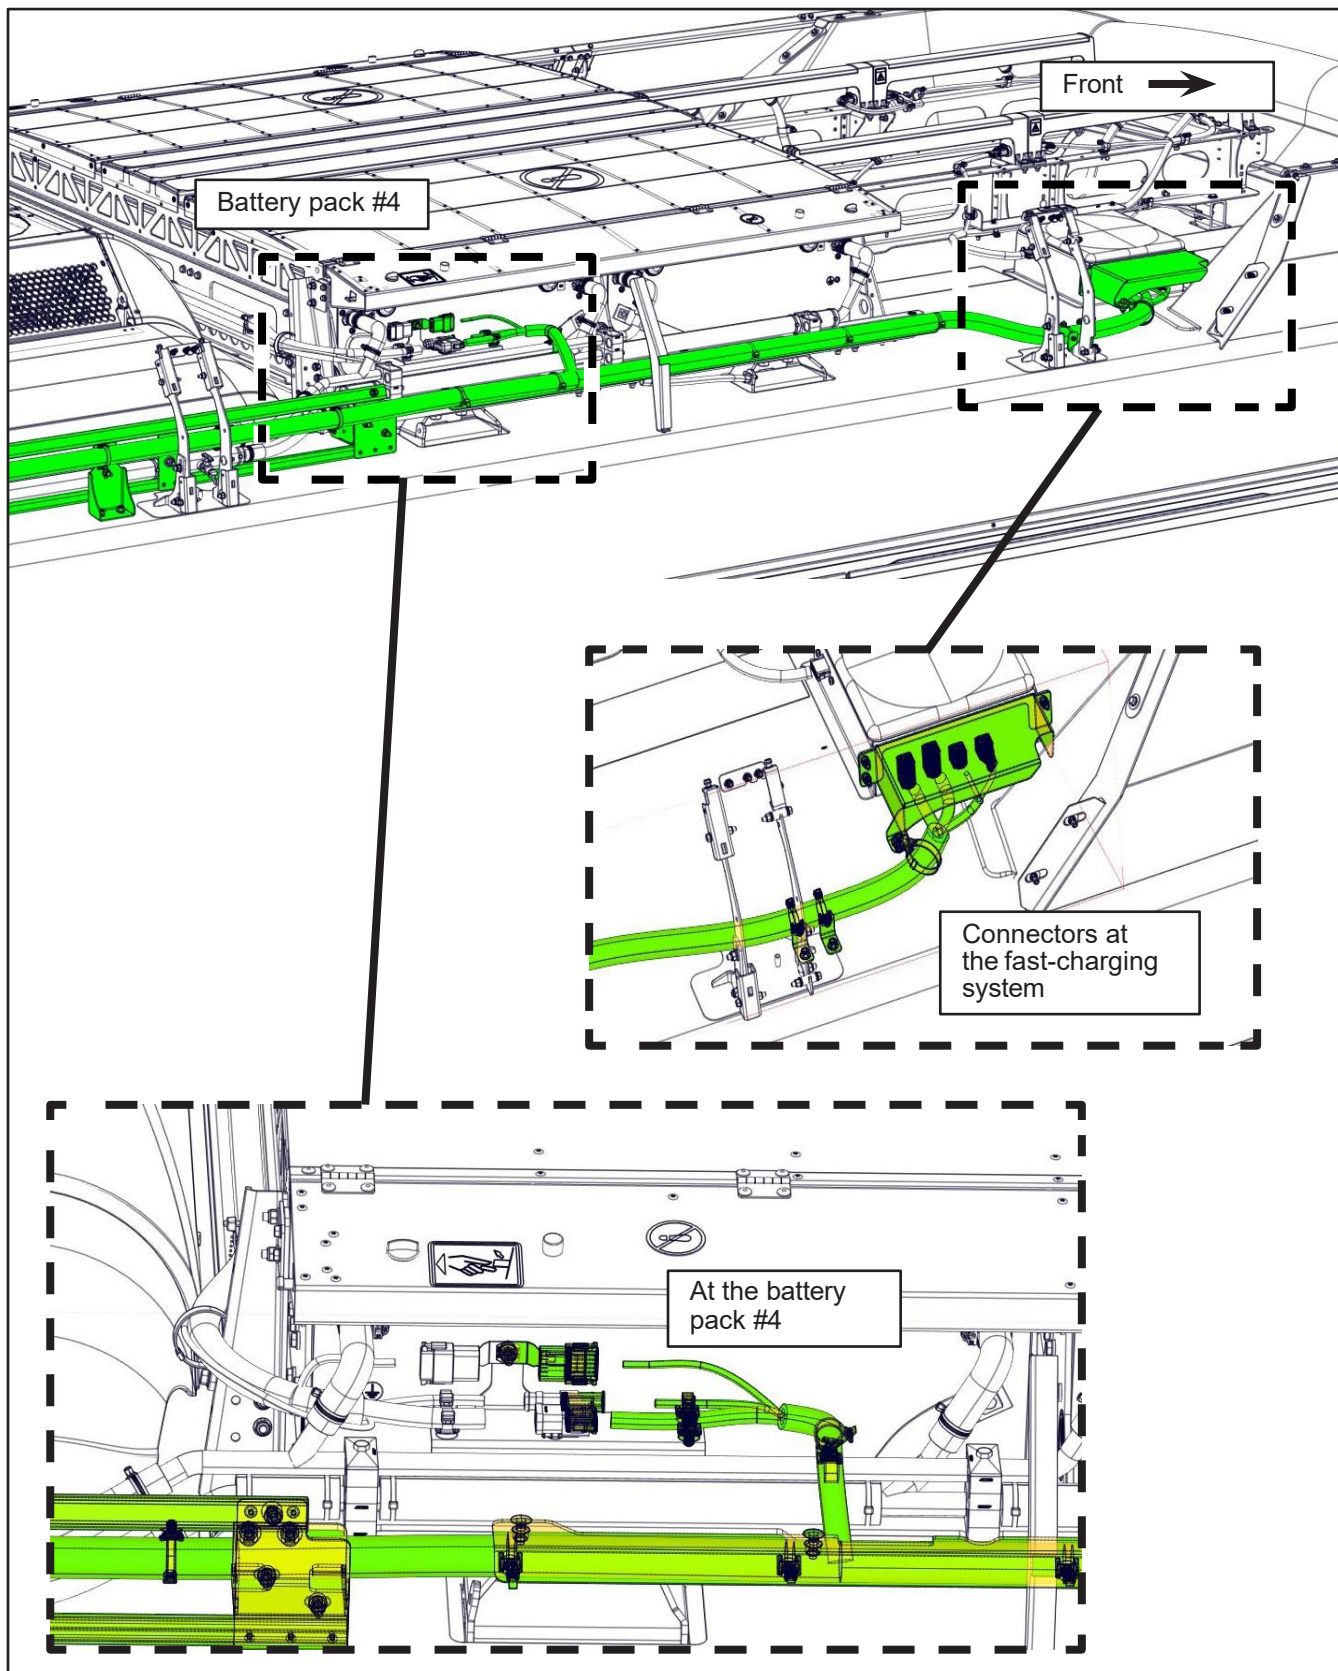

Figure 4 - WHA 47 Routing (Front Right Side)
- 1.8. Inspection at the male connectors BR1X4711B, BR1X4711C and BR1X4711D. See the next figure and the Figure 4 "Connectors at the fast charging system". If signs of water ingress, corrosion or damage are found, see level 2. If a yellow mounting clip breaks, see the material list level 2.